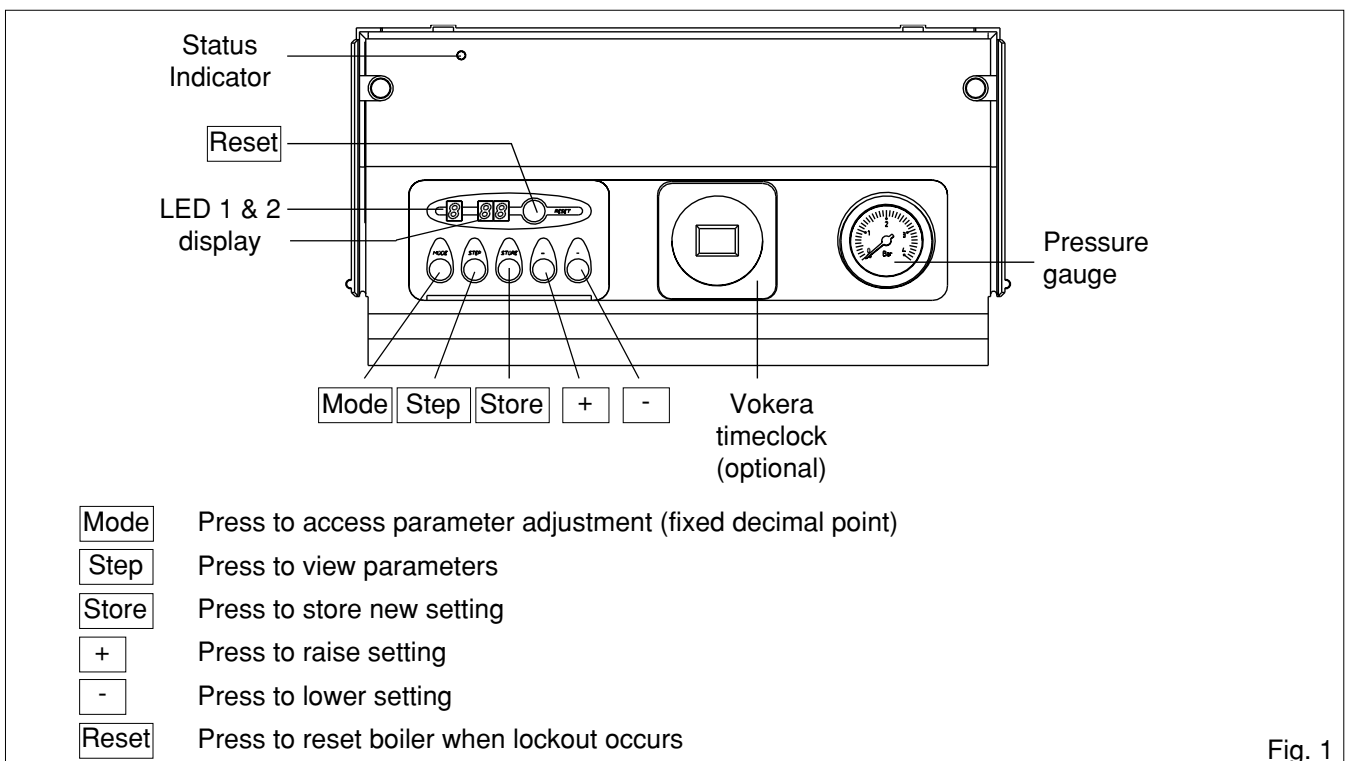

Fig. 1
2.2 APPLIANCE CONTROLS (fig. 1)
2.4 ADJUSTING THE OPERATING PARAMETERS (see fig. 1 & 1A)